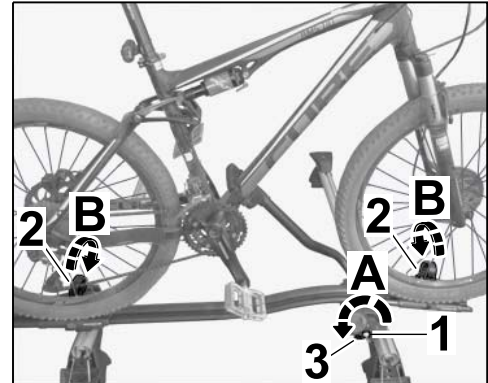

Figure 19
- 6.2 Unlock the lock on the rotary knob (⇒ *Figure 19-A-*).
- 6.3 Loosen tension strap for wheel mount (front/rear) and guide it through the front/rear wheel (⇒ *Figure 19-B-*).